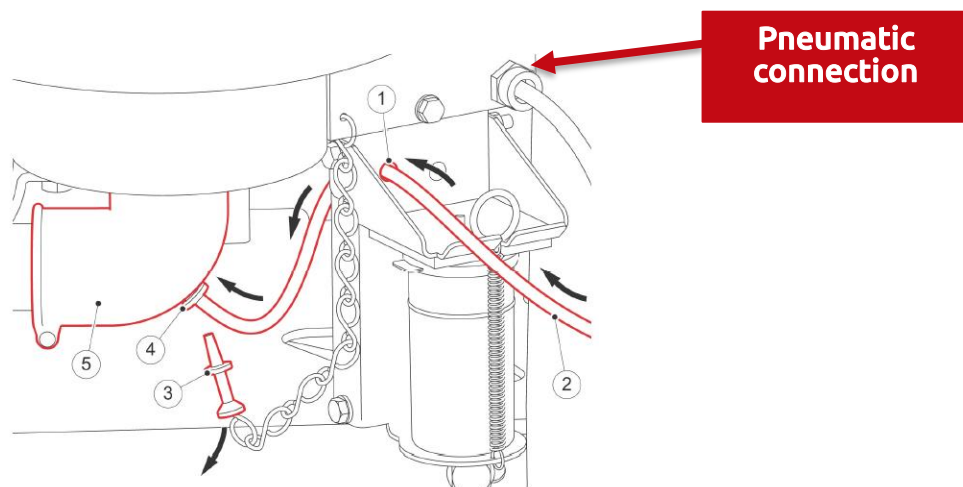

Figure 35. For Astronaut A3.
- Connection for Astronaut A3, see figure 35